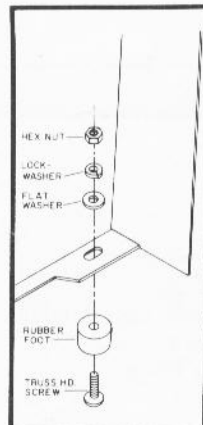

Fig. 4A
3. Assemble the four rubber feet to the bottom of the stand as shown in Fig. 4A. When accessory caster set, Cat. No. 50-118 is to be used with the stand, DO NOT USE THE RUBBER FEET.